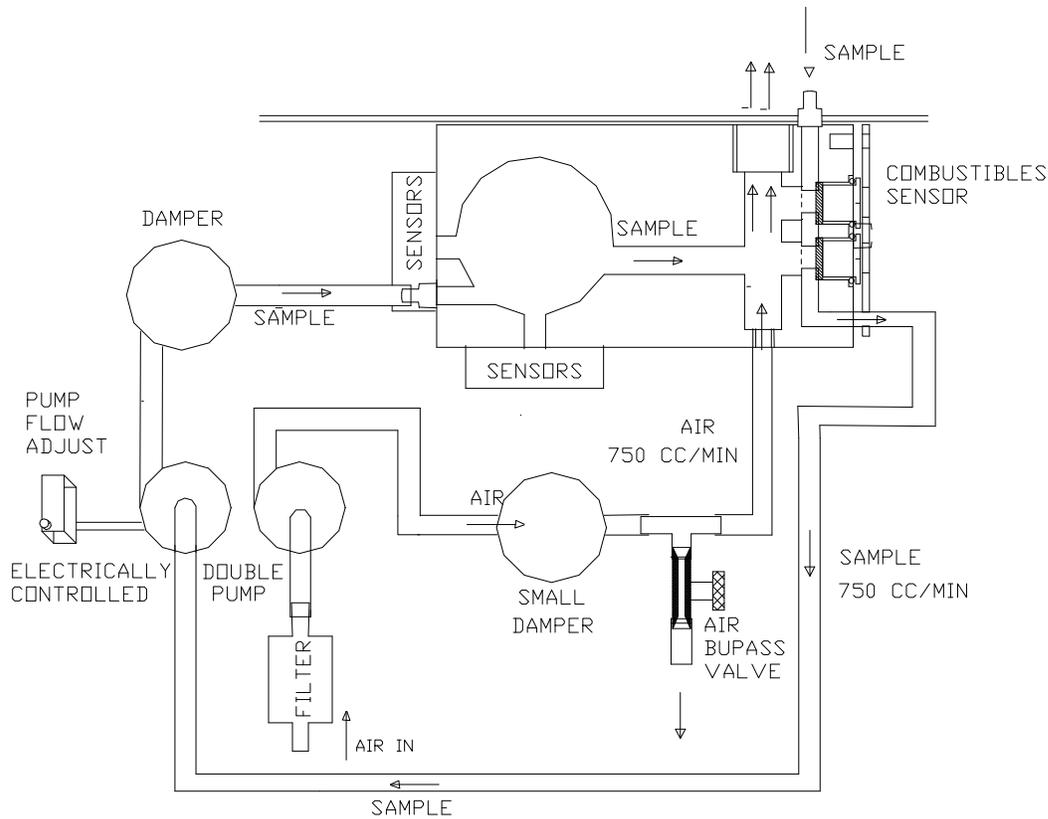

FIGURE 7
All gas sensors are located inside the instrument. They are mounted for convenience and easy access on a Teflon coated aluminum rectangular block, which is referred to as the " sensor housing" (see figure 7).
- b. **Gas sensing.** All gas sensors are located on the sensor housing. The sensor housing can be accessed by opening the hinged part of the face see figure 7.